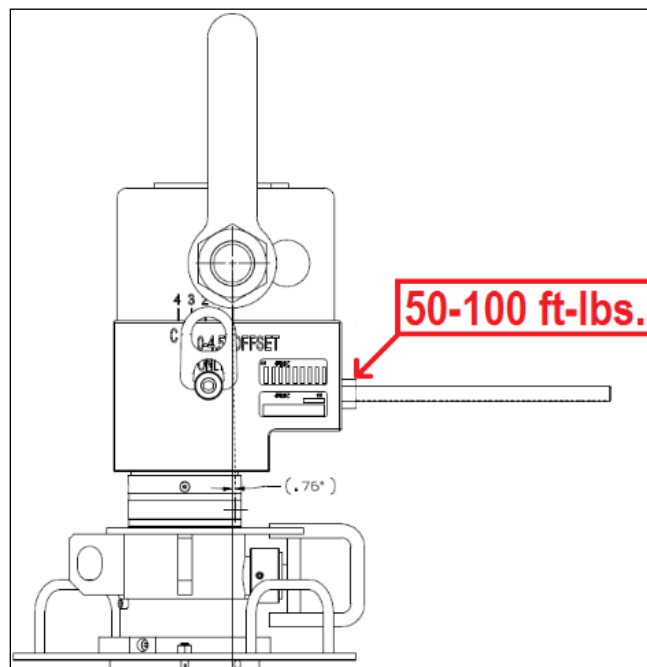

Figure 11: Rods Tighten
3. Tighten the 1.25" nuts against the Lower Adapter using approximately 50 to 100 ft-lbs. See Figure 11.